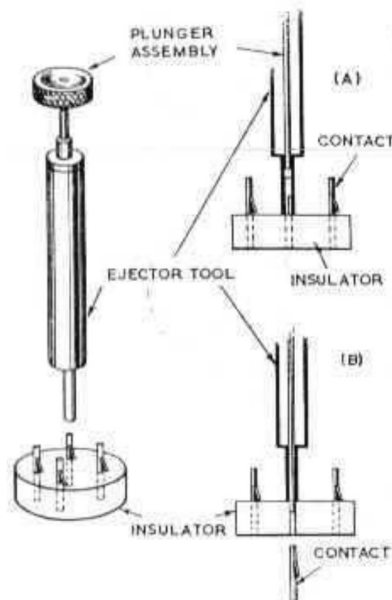

Fig. 19. Ejector tool
#### *Ejector tool (fig. 19)*
- (1) Place the tool end over the contacts so that it presses the contact flap back (fig. 19(A)).
- (2) Push the plunger down and eject the contact from the insulator (fig. 19(B)).